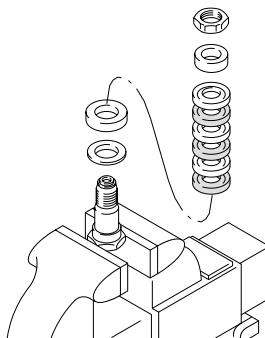

Fig. 21 _____ 02564
7. Disassemble the piston and discard the packings and glands. See Fig. 21.